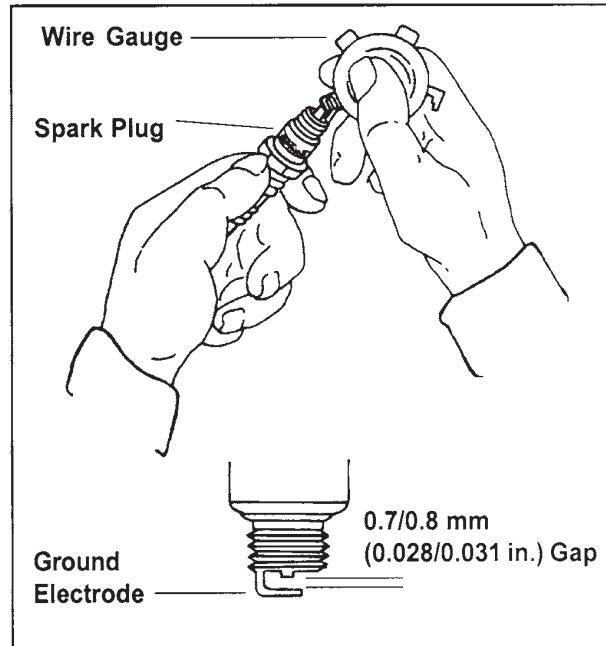

Figure 13. Servicing Spark Plug.
3. Check the gap using a wire feeler gauge. Adjust the gap to **0.7/0.8 mm (0.028/0.031 in.)** by carefully bending the ground electrode. See Figure 13.